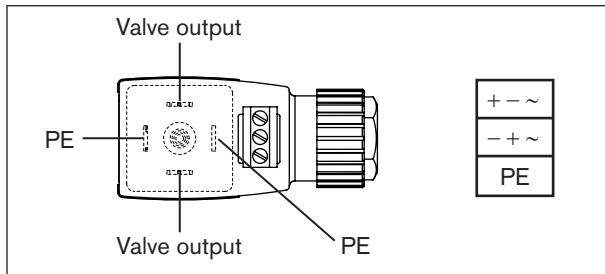

Fig. 1: Pin assignment 110 - 230 V
→ Connect the device socket according to the pin assignment in Fig. 1 or Fig. 2.
- the pin assignment according to Fig. 1 or Fig. 2